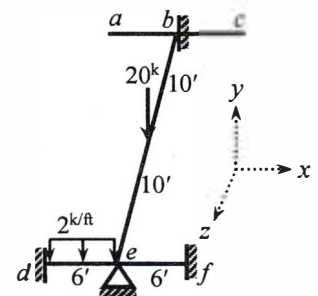

Fig.4
- Use stiffness method to calculate rotation(θ_x, θ_z) of joint *e* of the grid system *abcdef* loaded as shown in **Fig.4**